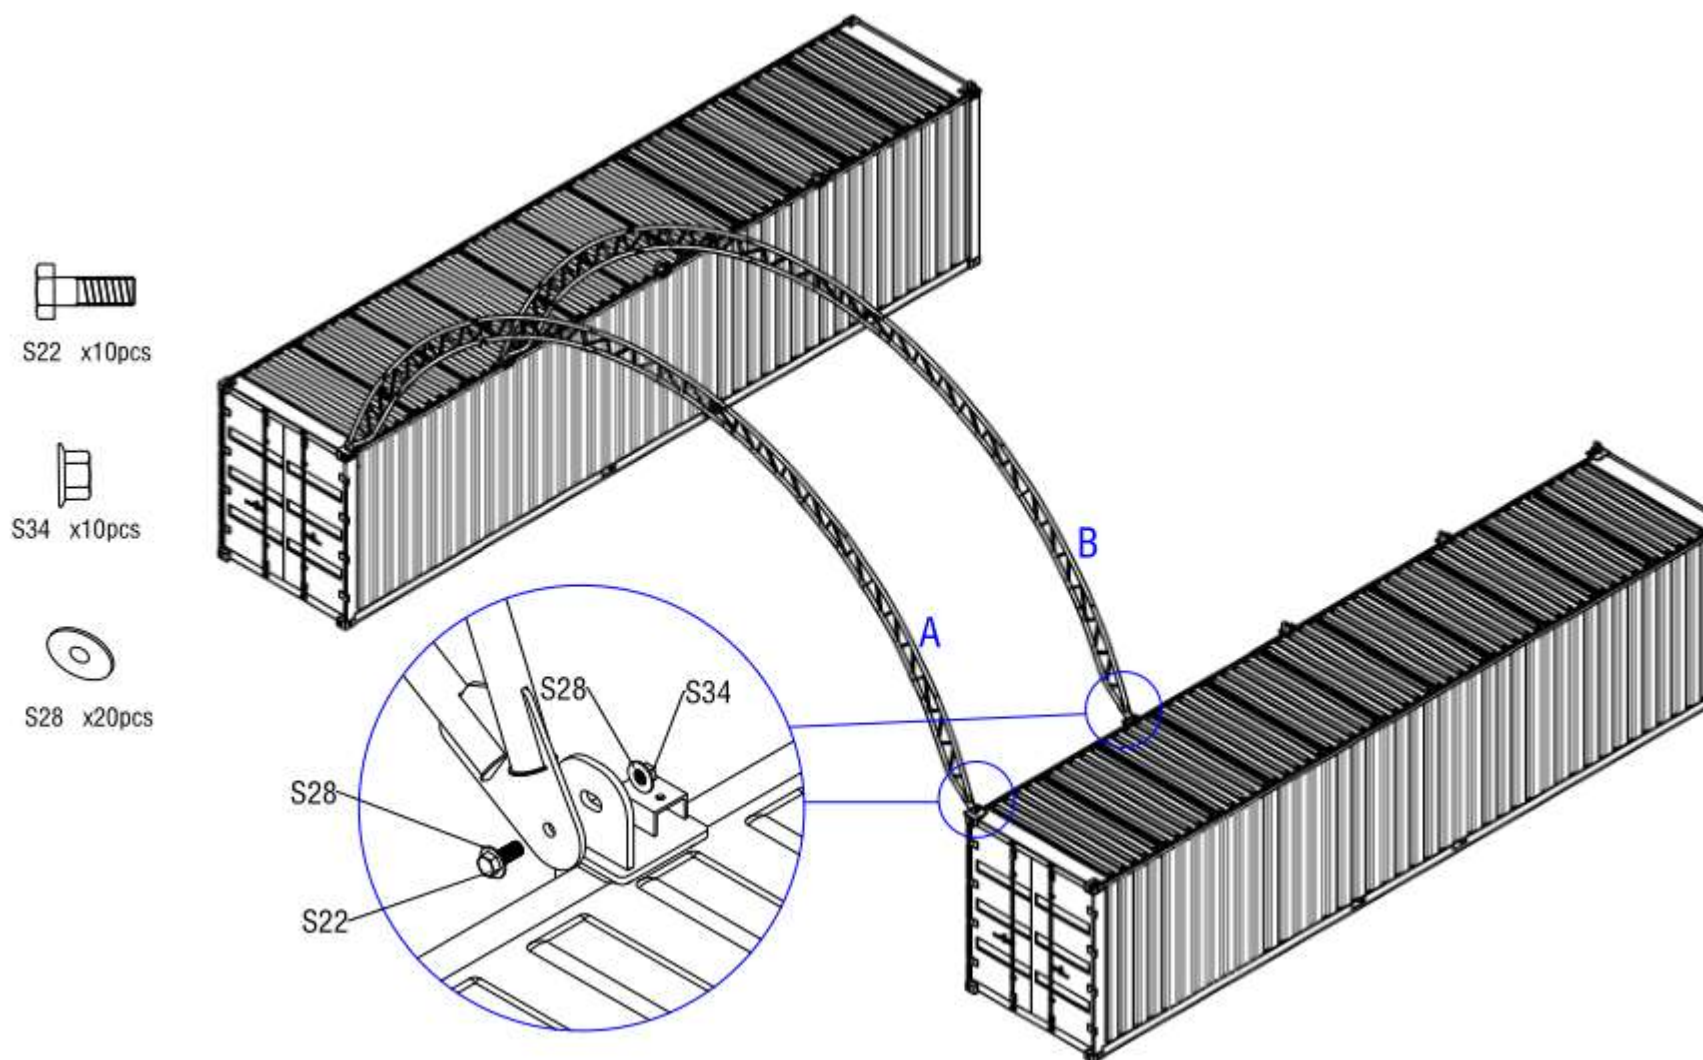

Figure 5
2.3 Lift an assembled arch onto one base plate and connect the arch with the base plate by using Bolt M20x60mm (Part no.S22). and force the other end of the arch onto the opposite base plate by same way as Figure 5 shows.